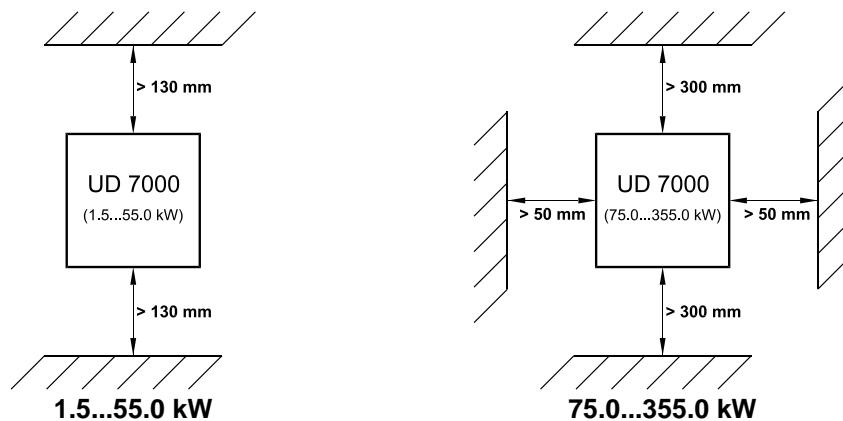

Figure 2.1
- B. The UD inverter generates heat and so there must be adequate space around the unit (see Figure 2.1). Only size II...VI inverters can be butted end-to-end. If the unit is accommodated in a housing together with another unit, the prescribed minimum clearances must be observed in order to guarantee corresponding ventilation.